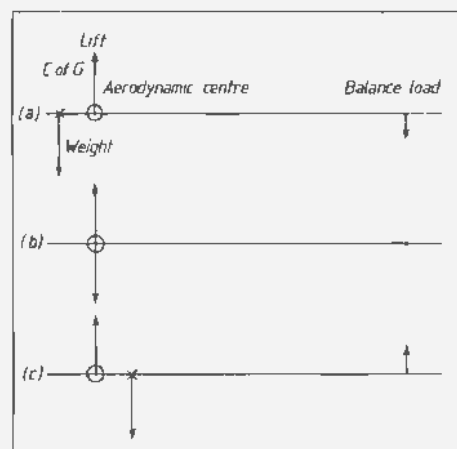

Fig 3. Basic balance conditions.
Ignoring the effect of camber, the balance of lift and gravity forces is shown in Fig 3. Three cases exist with the C of G (a) ahead of the AC, (b) at the AC and (c) aft of the AC. In (a) the tail load is downward, in (b) it is zero and in (c) it is upward. In level 1g flight, the total wing plus tail lift equals the weight, and the forces do not change with speed. In manoeuvres, the forces increase with the normal acceleration, so the tail load increases downwards, remains zero and increases upward in cases (a), (b) and (c) respectively.
In Fig 3 case (a), the wing and tail lift act behind the C of G and both produce a restoring moment. In case (b) the wing lift acting at the C of G has no effect and only the tail provides the restoring moment. In case (c) the wing lift acts ahead of the C of G and produces a destabilising moment in the direction to increase the angle of attack still further. When the C of G is far enough behind the AC, the wing destabilising moment equals the tail stabilising moment, giving a zero net restoring moment. Clearly the stability is neutral at this C of G position, called the neutral point or NP. At any C of G aft of this, the net incremental moment is destabilising and the aircraft is statically unstable.
6. A tailless aircraft must rely on the wing for stabilising moments. These occur only for C of G positions forward of the AC. The required aft download balance force in Fig 3(c) is provided by raising the trailing edge of the wing. This can be part of the basic section design or could be raised flaps on a symmetrical or normal cambered section. The wing CP is at the C of G and will move in an apparently stable manner when disturbed. Sometimes such sections are misleadingly called "stable", but they are in fact simply self-trimming in this C of G condition.